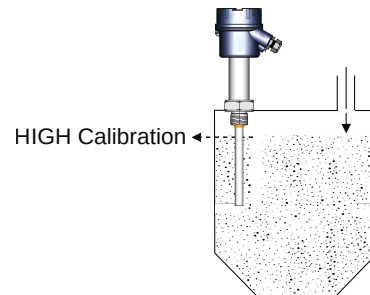

Figure 17: High Calibration
- High Calibration** For High Calibration, fill the tank with the application material such that the Casper's probe is completely covered with the material as shown in Figure 17 and follow the instructions given in the section Calibration for Conductive Material.